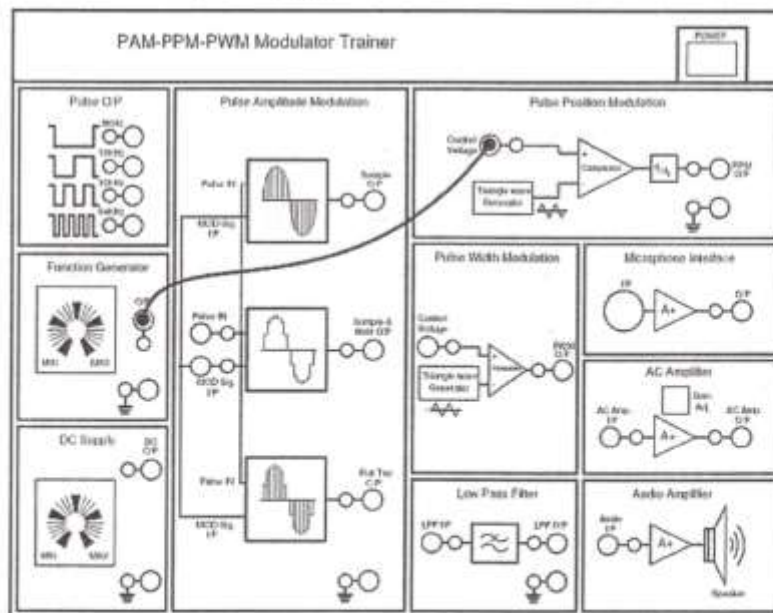

Fig. 20
1. Connect the circuit as shown in Fig 20.